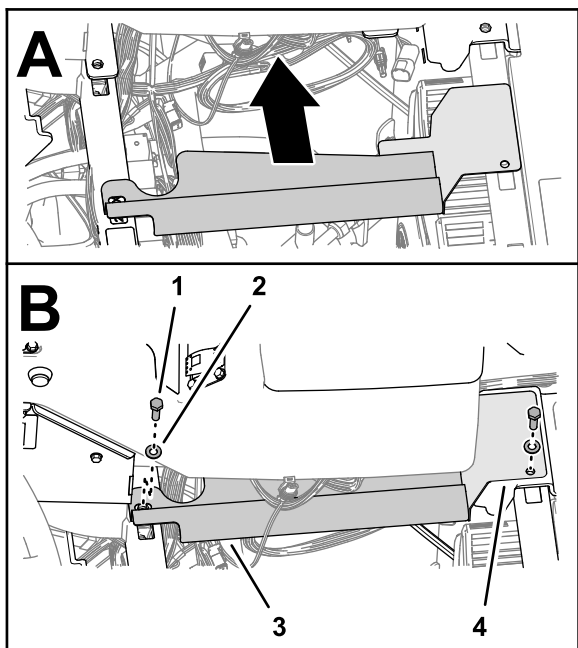

Figure 103
7. Align the hole in the bottom console cover to the hole in the shock-support tube and the hole in the end console cover to the hole in the cross-member tube (Figure 103).
8. Secure the covers to the tubes (Figure 103) with 2 capscrews (5/16 x 1 inch) and 2 washers (5/16 inch).